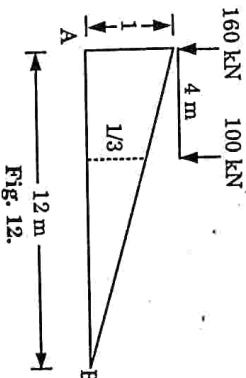

Fig. 12.
- i. For absolute maximum positive shear, the load position is as shown in Fig. 12.